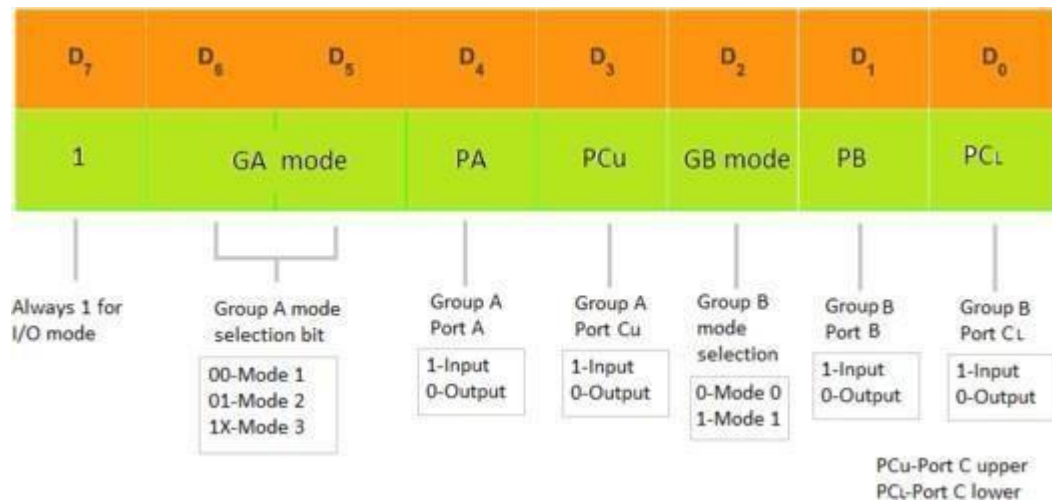

Figure 3.12: 8255 Control word for I/O mode
- **D₀, D₁, D₃, D₄** are assigned for lower port C, port B, upper port C and port A respectively. When these bits are **1**, the corresponding port acts as an input port. For e.g., if D₀ = D₄ = 1, then lower port C and port A act as input ports. If these bits are **0**, then the corresponding port acts as an output port. For e.g., if D₁ = D₃ = 0, then port B and upper port C act as output ports as shown in Figure 3.12